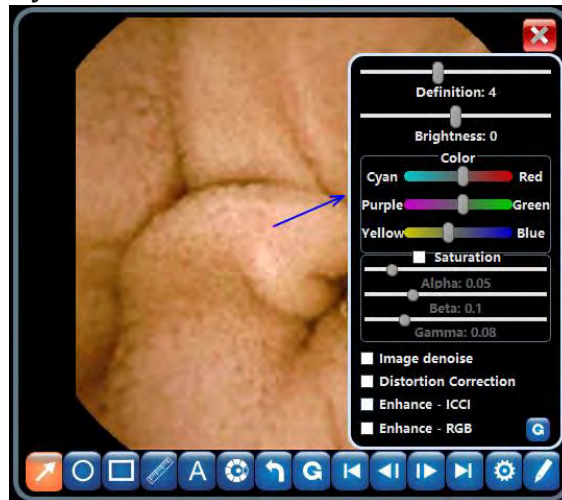

Figure 4-27: Image Processing Control Panel
- As previously described, clicking  brings up the image processing control panel (Figure 4-27). The sliders and checkboxes function the same as those in the image processing control panel described previously.